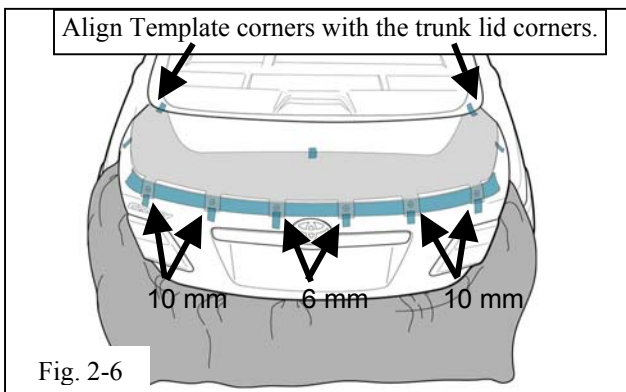
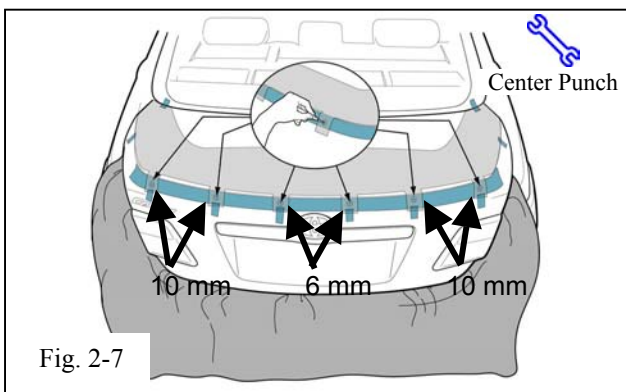

Fig. 2-6
Fig. 2-7
- (k) Place the Mylar drilling template on the vehicle as shown. Tape in place, making sure template is completely smooth and flat on trunk lid surface (Fig. 2-6).
- (l) Locate the six (6) hole locations on the template.
- (m) Using a center punch, carefully punch each of the six hole locations through the Mylar Template onto the trunk lid. There is one hole location on each of the six tabs (Fig. 2-7).
- (n) Remove the Mylar Template. Make sure you can see all six (6) punch marks.
-  **NOTE:** To help prevent drilling the wrong hole sizes at the six hole locations, it may be useful to write the hole diameter next to each punch mark on the masking tape (Fig. 2-6).
- (o) Carefully drill the six mounting holes the correct diameters (Figs. 2-6).